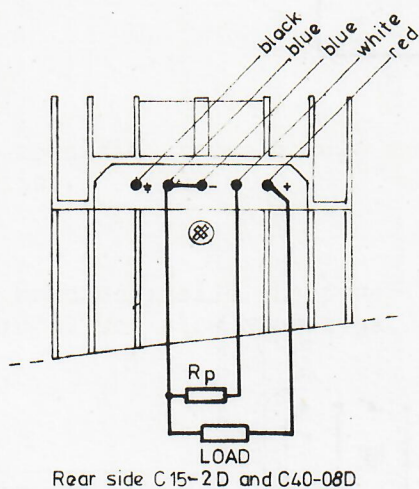

Figure 6
3. Connect load and programming resistor  $R_p$  according to figure 6.